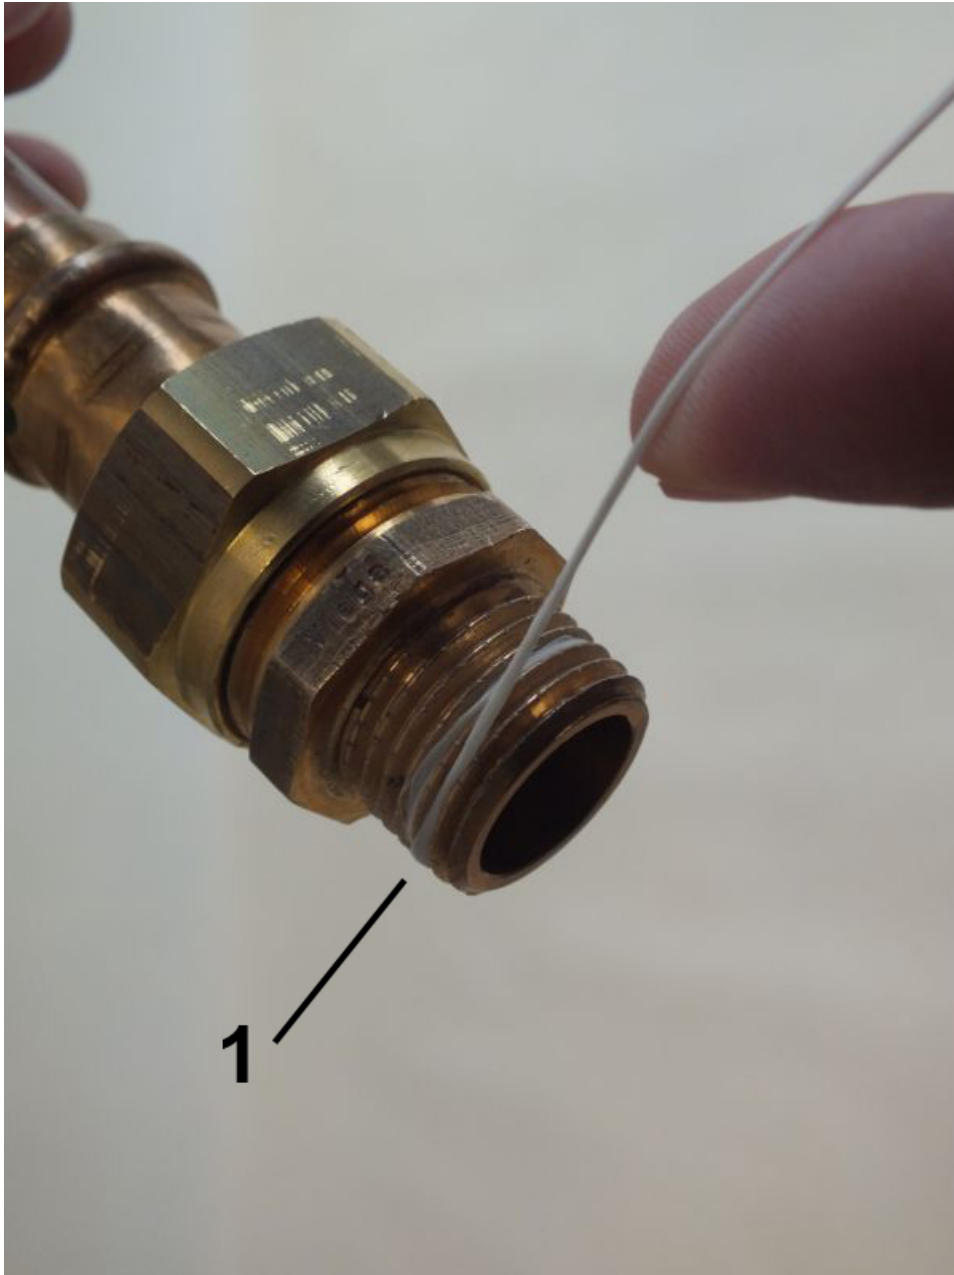

Fig. 9: Apply sealing thread
2.  Apply sealing thread (*Fig. 9/1*) to the napped area in the threaded direction. Observe the quantity recommended by the sealant manufacturer